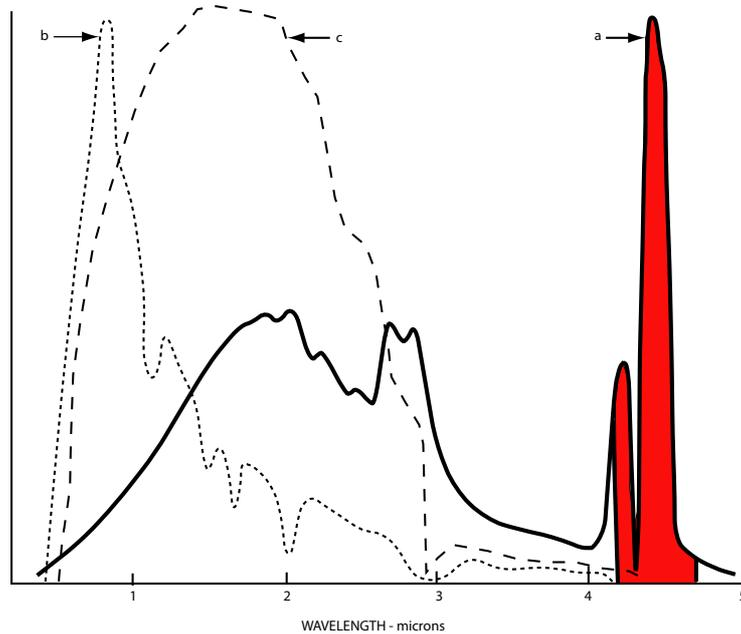

Fig. 1: Spectrums of:
- Fig. 1(a) shows the spectrum of a typical fire of this type
- Fig. 1(b) the spectrum of the radiation of the sun and
- Fig. 1(c) that of a tungsten filament lamp.
In order to exploit these spectral characteristics, the 801FEx uses an optical filter, which transmits infra-red between 4.38  $\mu\text{m}$  and 4.56  $\mu\text{m}$  (shown shaded in Fig. 1(a)). This bandwidth allows high sensitivity to flames with low sensitivity to other interfering sources.